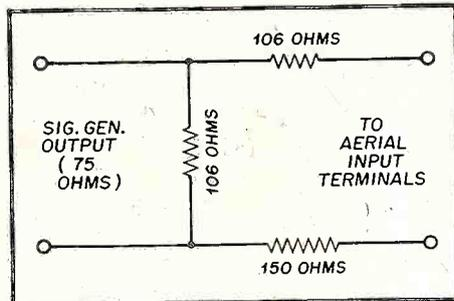

Fig. 4- Matching network
Figure 4 shows an impedance-matching network for coupling the signal generator to the aerial input terminals of the receiver. This network, which is designed so that the input impedance is 75 ohms and the output impedance is 300-ohms, is used to match a 75 ohm generator to a 300-ohm aerial input circuit. The resistor used in this network should be of carbon composition construction, and should be chosen from a group to obtain values close to those indicated. An aerial matching jig, which consists of a matching transformer and connecting box may be used in place of the resistor network.
2. Connect the AM (marker) generator to the 300-ohm aerial input through the aerial input matching network. See fig. 4.